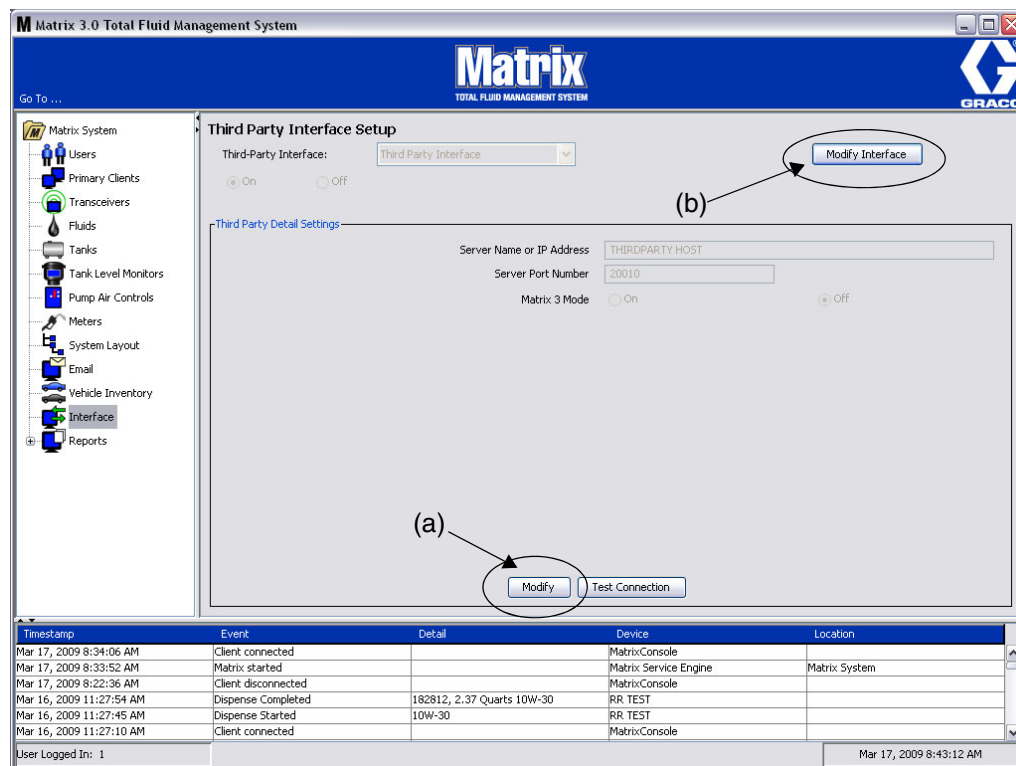

FIG. 162
1. Click the **Modify** button (a) (FIG. 162, page 118) to display the External Interface Setup Dialog box.
1. Click the **Modify Interface** button (b) (FIG. 162). The External Interface Setup Dialog box shown in FIG. 164 displays. This dialog box is used to specify the Third Party Interface you are using.